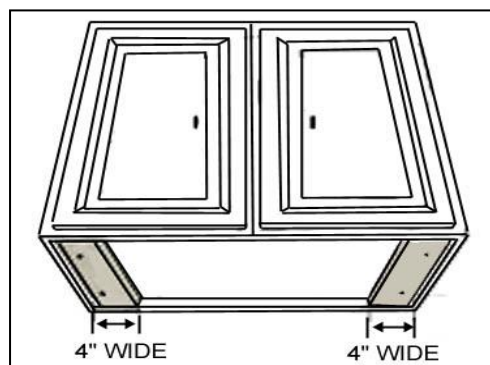

Figure 1
11. For installing under the cabinet with recessed bottom, attach 4-inch wide wood filler strips (not included) on each side (refer to figure 1).